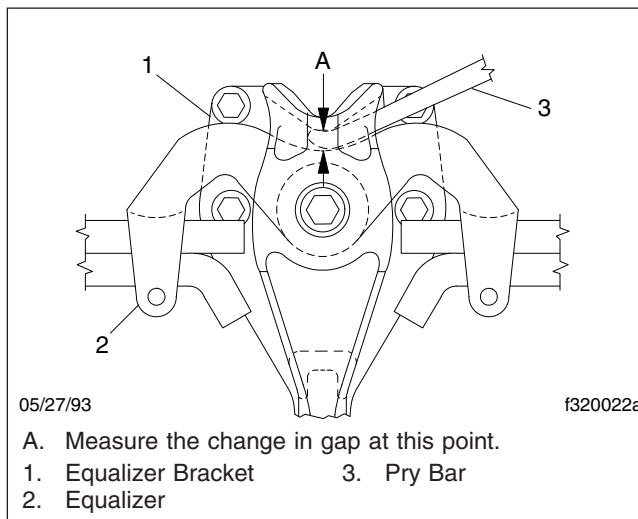

Fig. 4, Side View of the Equalizer
6. Block up the frame enough to take chassis weight off the springs. Attempt to move the equalizer up and down, using a pry bar between the top of the equalizer and top of the equalizer bracket; apply hand pressure only. See **Fig. 4**. If movement at the center of the equalizer exceeds 1/8 inch (3 mm), replace the equalizer bushings. See **Group 32** of the *122SD and Coronado Workshop Manual* for instructions.